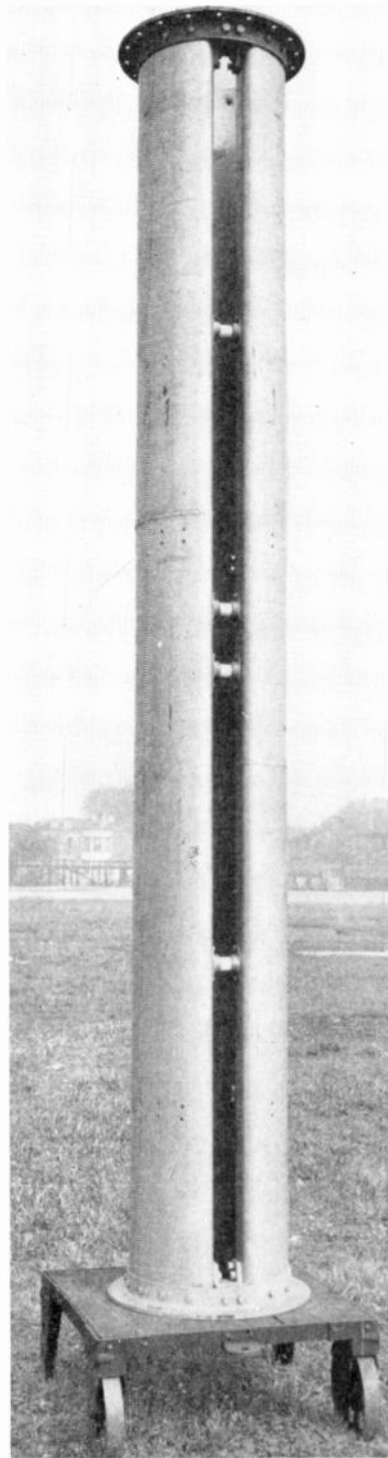

FIG. 1. SINGLE PYLON ANTENNA SECTION
**General Description** ★ Structurally, mechanically, and electrically this new antenna has been reduced to strictly functional elements. Each pylon section, Fig. 1, is a
A single section, Fig. 1, weighs only 350 lbs., or 700 lbs. for two sections, while a 4-section assembly, made of heavier material, comes to 2,000 lbs. These weights include the radiators, transmission line, beacon, steps, and hardware.